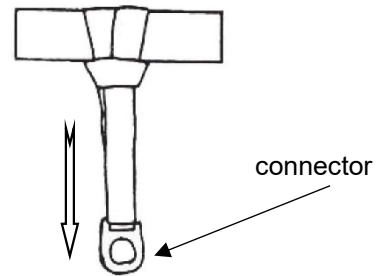

Fig.3
- ◆ Size the Temporary Anchorage Connectors length to the structural member you will attach it to. When properly attached to the anchorage, the connector must protrude completely through the loop so that the connector hangs freely (Fig.3).
- ◆ Adjust the webbing so that the connector is positioned under the center of the structural member. Pull down on the connector to remove slack and secure the hitch (Fig. 3).